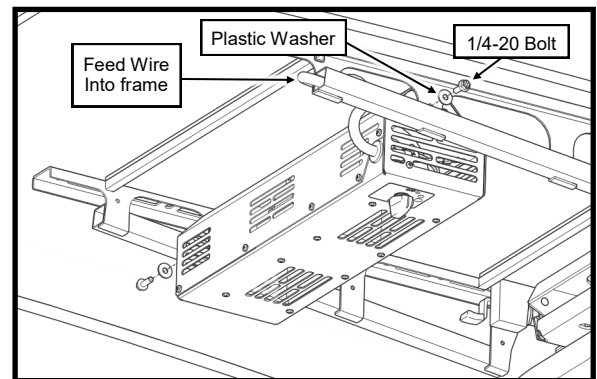
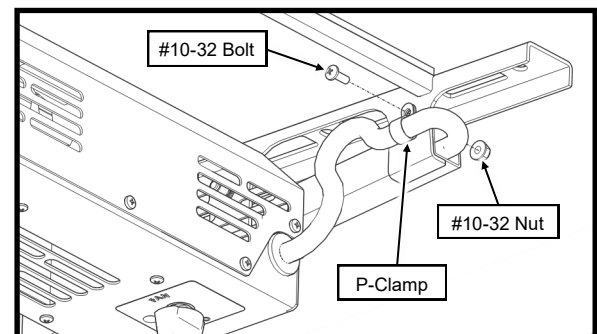

Fig. 2 (Attach Fan to Canopy)
Fig. 3 (Attach Fan wire to Canopy frame)
2. Per Fig. 2, attach the fan assembly to the canopy frame with the switch toward the left side of the frame, using two 1/4-20 x 3/4" flanged hex head screws and plastic washers through the holes in the second vertical rib of the canopy frame, into the threaded inserts in the fan assembly. Tighten the screws.
3. Per Fig. 2, feed the wire harness from the fan assembly into the canopy frame tube closest to the switch and out the back of the tube. Rotate the fan assembly toward the rear of the frame, then secure the wire harness to the canopy frame with a P-clip, a #10-32 bolt, and a #10 nut per Fig. 3. Rotate the fan toward the front and push up on the loop of wire harness to make sure it folds upwards.